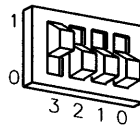

Figure 5-17.
- If connecting an HP 2601A printer, an HP 39800/01A bar code reader, or an HP 92205A/C *Hayes Smartmodem 1200* to this interface, set the baud rate switches to 1200. To get 1200 baud, set switch 3 to 1, and set switches 2, 1 and 0 to 0. The switches will look like the one in Figure 5-17: